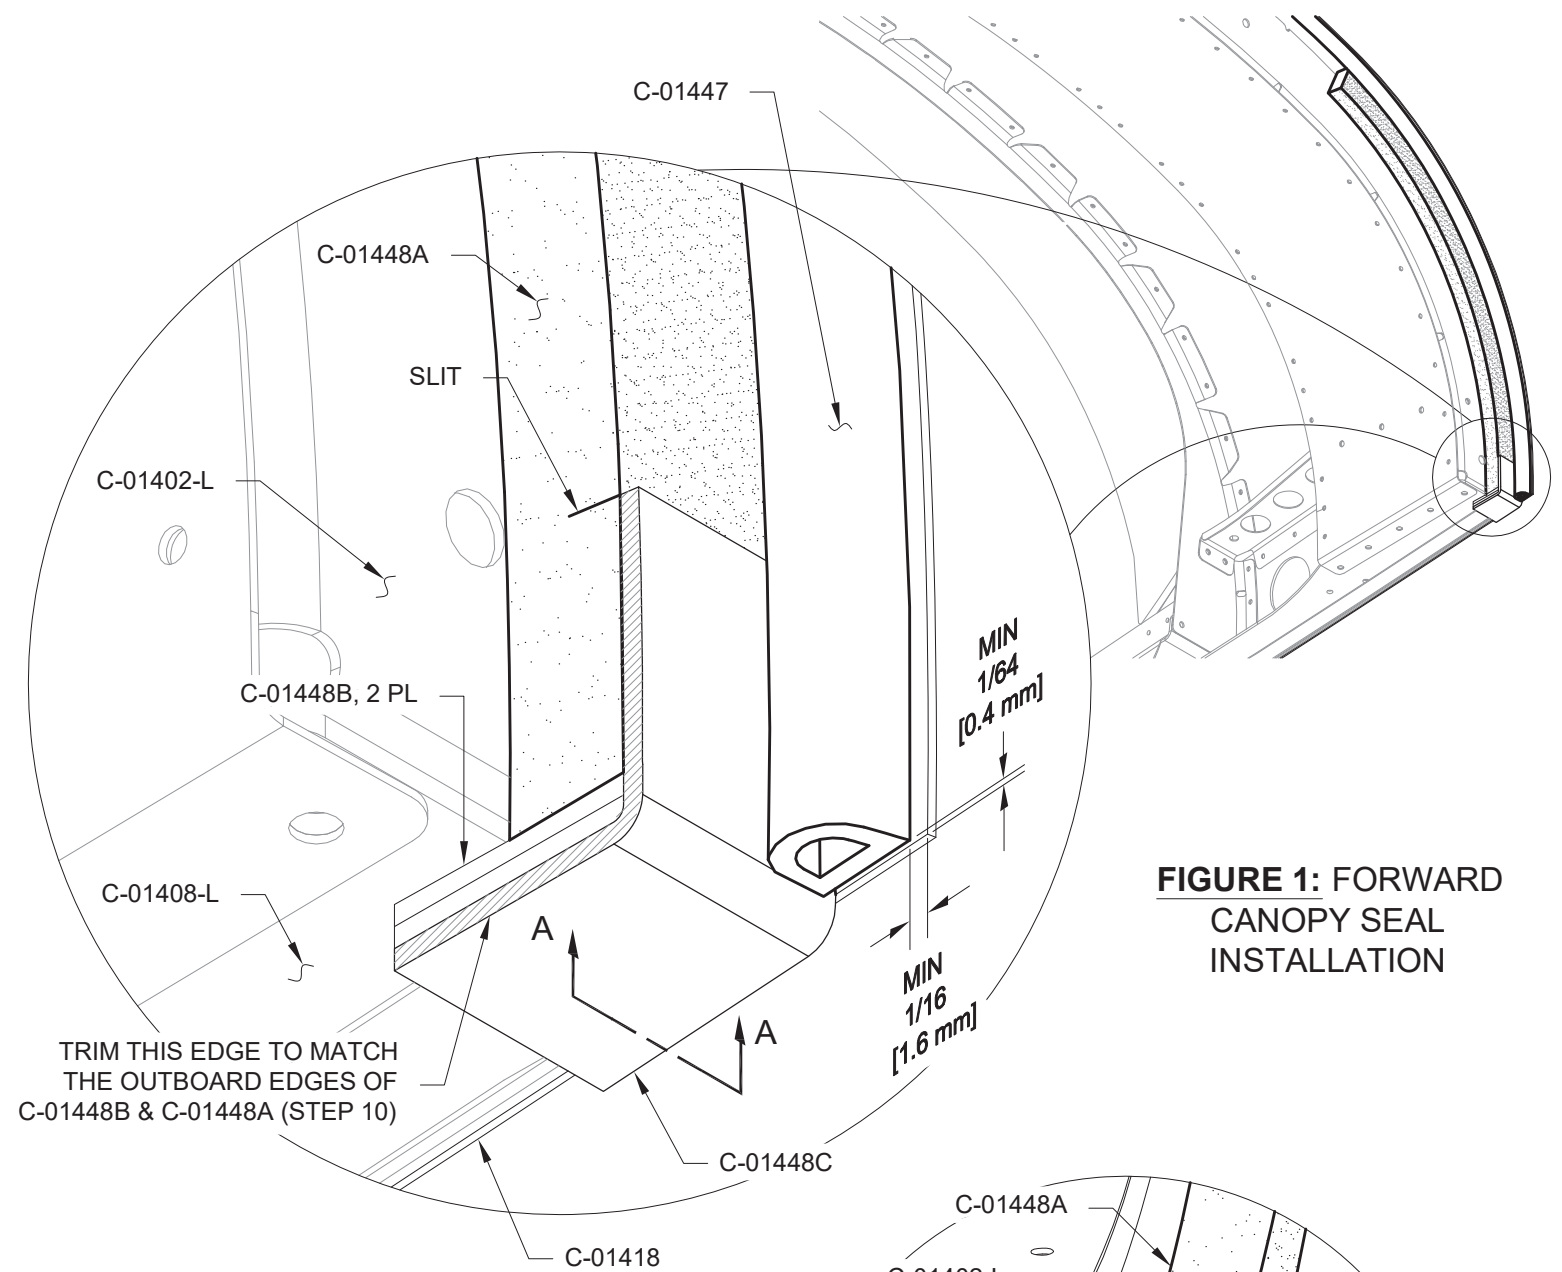

FIGURE 1: FORWARD CANOPY SEAL INSTALLATION
Step 13: Without removing the adhesive backing, position the C-01447 D Seal as shown in Figure 1 and View A-A. Position the ends of the D Seal approx. 1/2 in. [12.7 mm] below the bottom edge of the C-01418 Canopy Skin. This excess foam will be trimmed later.
Step 15: Trim the ends of the D seal as shown in Figure 1.